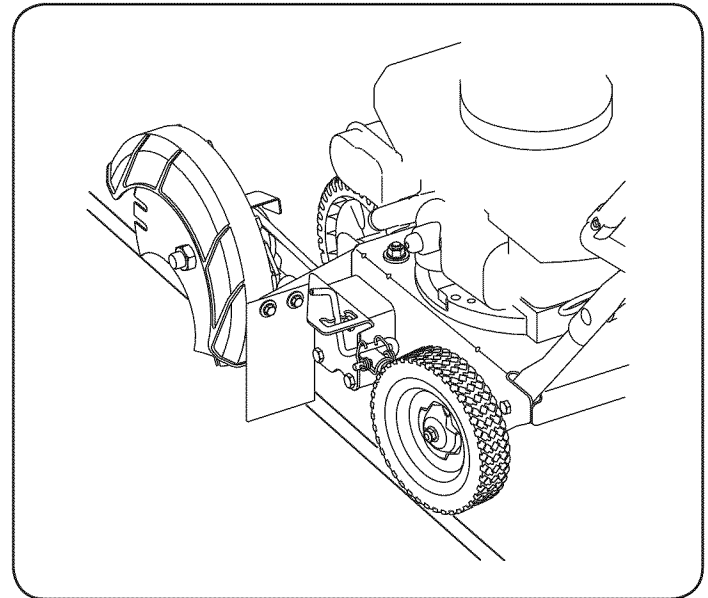

Figure 7
1. Move edger to an area to be edged, making sure that the left rear wheel is on a hard surface and the blade is over the area to be cut. See Figure 7.